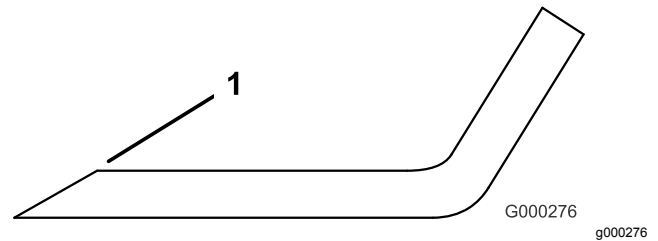

Figure 98
1. Use a file to sharpen the cutting edge at both ends of the blade (Figure 98). Maintain the original angle. The blade retains its balance if the same amount of material is removed from both cutting edges.